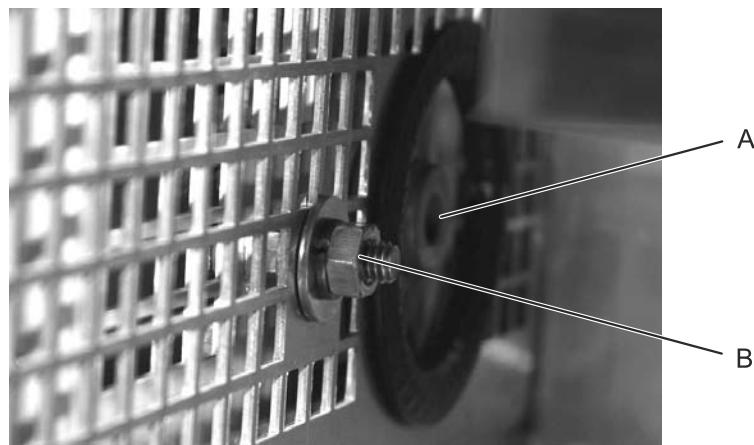

Figure 77: Grounding screw and HV power supply cable connection
14. Tighten the HV power supply grounding screw on the thyatron side of the HV power supply (see Figure 77, A).
15. Connect the HV power supply cable to the socket on the thyatron side of the HV power supply (see Figure 77, B).